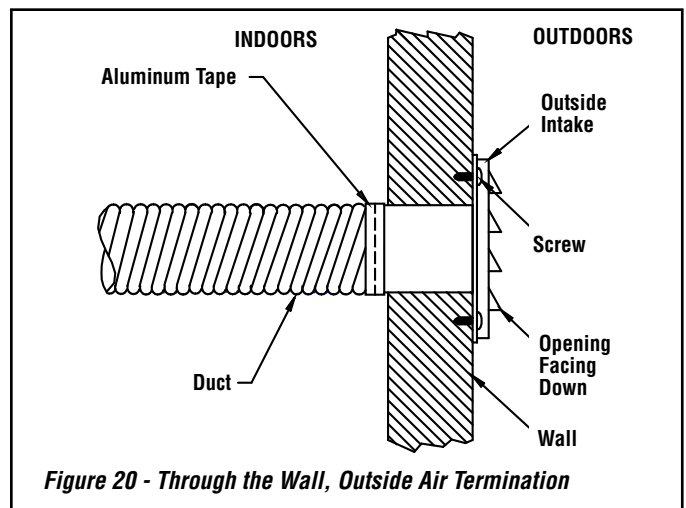

Figure 20 - Through the Wall, Outside Air Termination
- B) The air intake register must not be installed more than ten (10) feet (3050 mm) above the base of the stove.
- Make a 4-1/4" (110 mm) hole in the outside wall of the house at the chosen location. From outside, place the outside air register in the hole (open side down) and fasten the register to the wall, with screws as shown (*see Figure 20*).